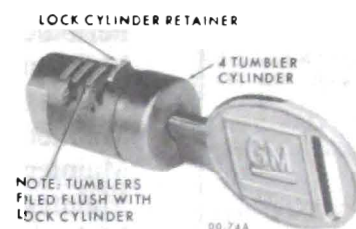

Figure 00-10 - Coded Glove Compartment Lock Cylinder
4. Reverse lock cylinder position in vice and repeat Step 5 for bottom of tumblers. See Figure 00-10.